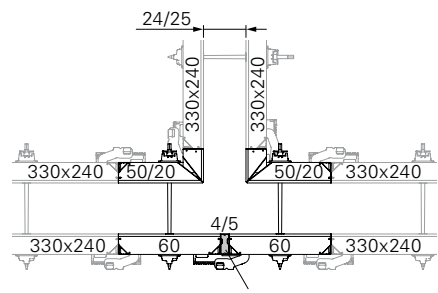

Fig. C4.04
- Wall thickness 24/25: Fig. C4.04